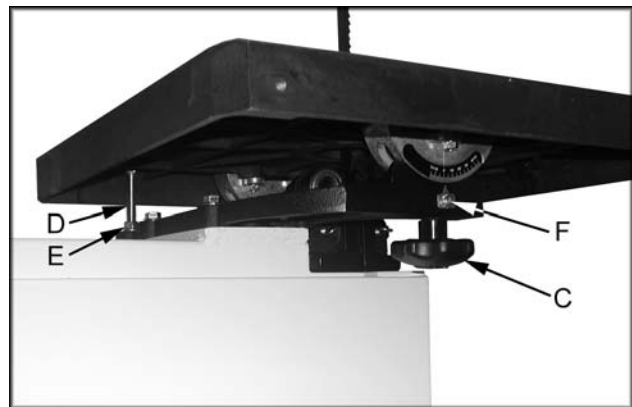

Figure 6
4. Line up the trunnions so that the bolts feed through the trunnion support bracket. Secure the table with two lock knobs (C, Fig. 6). Reinstall the table insert and table pin.
2. Loosen lock knobs (C, Fig. 6) and tilt table until it rests against table stop bolt (D, Fig. 6). Tighten knobs.
5. Loosen lock nut (E, Fig. 6) and turn table stop bolt (D, Fig. 6) until it contacts the table. Tighten the nut (E, Fig. 6) to hold table stop in place. When tightening the nut hold the table stop bolt in place with a wrench to prevent movement.
6. If necessary, adjust pointer (F, Fig. 6) to zero.